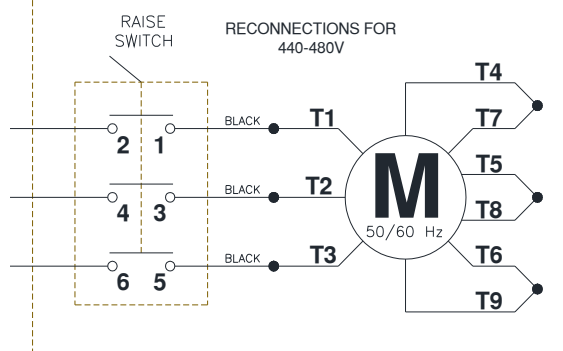

Fig. 23 – Electrical Wiring Diagram
**See Figure 23 for the following steps.**
47) Connect the Overhead Limit Switch Cord to Power Unit as shown in **Fig. 23**.
48) Connect Power Unit to suitable electrical source as shown in **Fig. 23**.